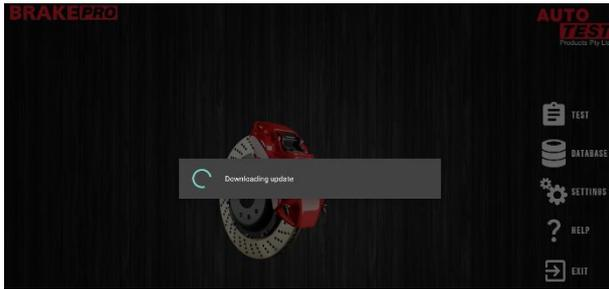
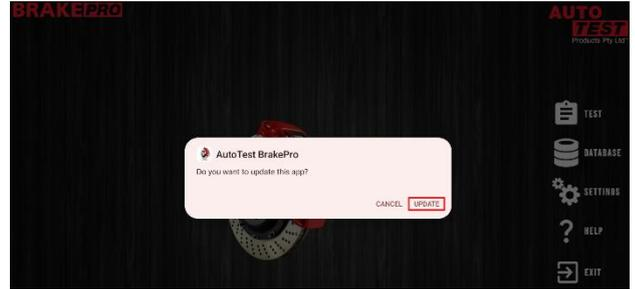

Figure 25
Figure 26
2. Wait for the downloading of the new update file to be finished (Figure 25). Once done, press on Update/Install when prompted. Wait for the installation to be finished (Figure 26).